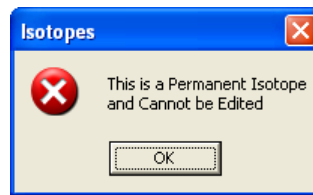

Figure 6-5
**Note:** If the selected isotope is in the system's permanent isotope database, the following error message will appear (Figure 6-5). Click the  button.